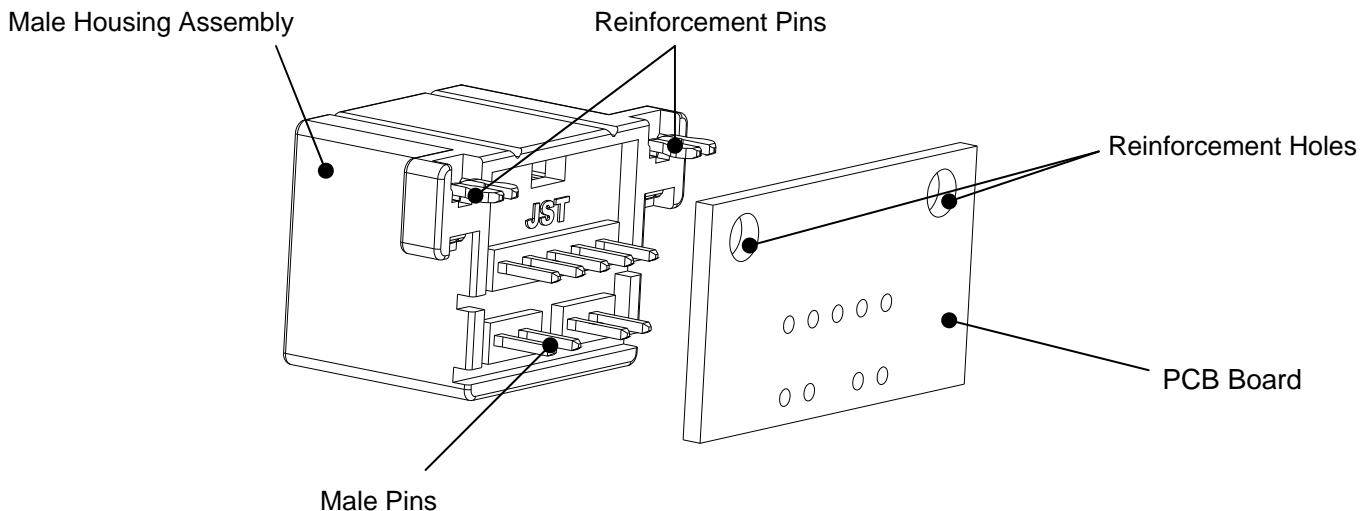

Figure 23. Polarization of the Male Assembly with the PCB Board (e.g. 9 positions)
c) When placing the male housing assembly on the PCB board, check to see if the Male pins and the reinforcement pins are in the proper alignment with proper holes on the PCB board. See Figure 23.